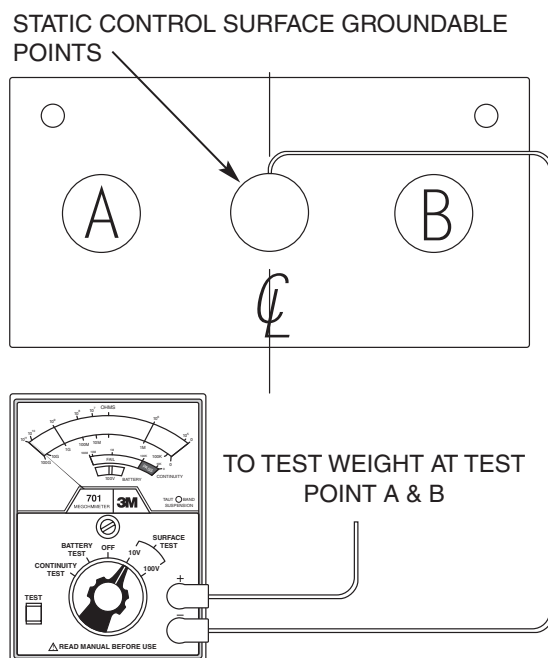

Figure 5-5: Material Evaluation Surface to Surface Test
E. Surface-to-surface Test: Test samples as shown in Figure 5-5; use both test weights and repeat the same test procedure used to determine ( $R_{TS-GP}$ ).